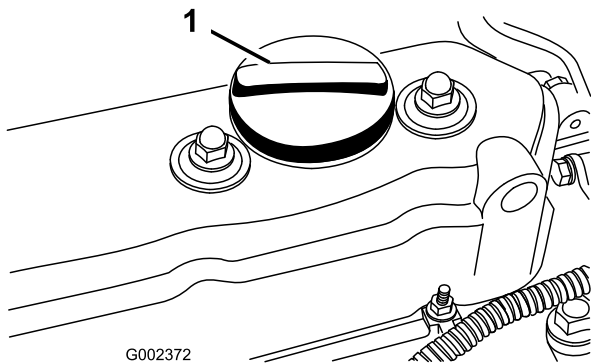

Figure 16
3. If the oil level is low, remove the filler cap (Figure 16) and add enough oil to raise the level to the Full mark on the dipstick.